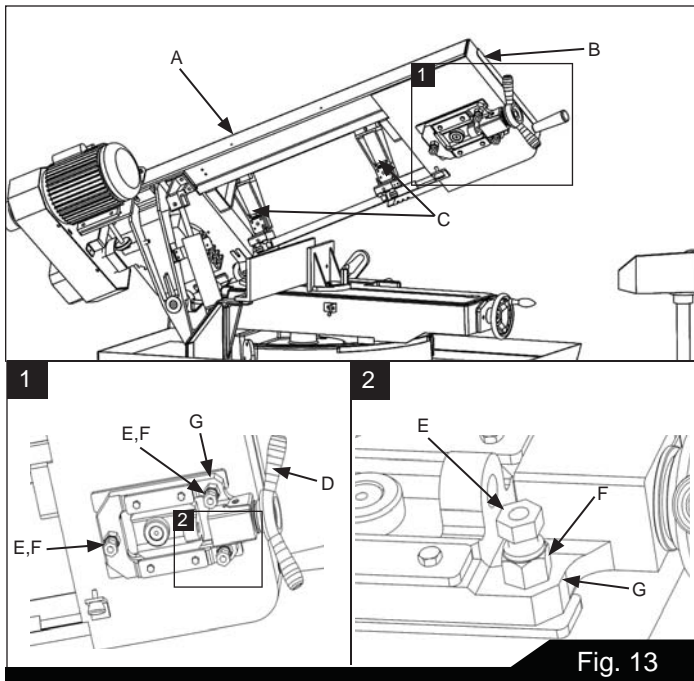

Fig. 13
Refer to Figures 13 and 14.
**Note:** As a general rule, make the same adjustment to the two adjustment screws on the right (F, Fig. 13). The single adjustment on the left is independent.
7. Next, turn the *adjustment screws* (F) so the blade starts to move away from the shoulder of the wheel then immediately turn the *adjustment screws* in the other direction so the blade stops – then moves slowly toward the shoulder.
8. Turn the *adjustment screws* (F) to stop the motion of the blade on the wheel as it gets closer to the wheel shoulder.
10. Turn the *adjustment screws* (F) slightly in the counter-clockwise direction. This ensures that the blade is not touching the shoulder of the wheel.
12. Tighten the *hex locking screws* (E).
13. Install the *blade-guide bearing bracket assemblies* (C, Fig. 13).